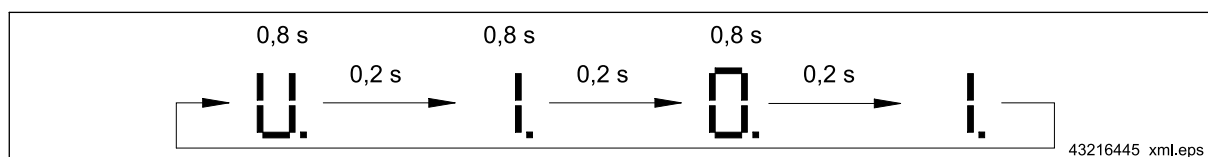

Fig. 8 Example: Software version 1.01
- Software version ⇒ Fig. 8, Page 30,